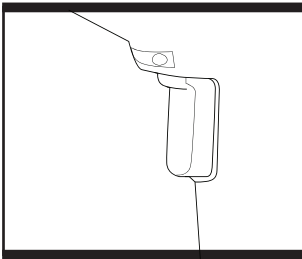

Fig. 6
6. USING THE LED WORK LIGHT (Fig. 6)